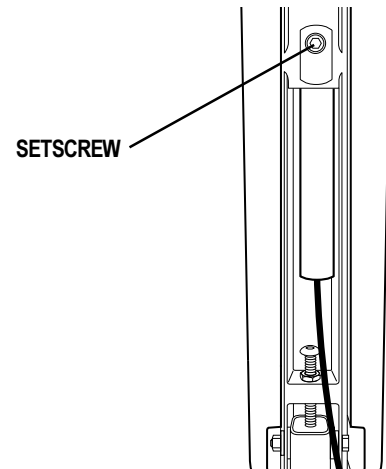

Figure 25. Underside of Armrest
3. Use a hex key to loosen the setscrew underneath the armrest. See figure 25.